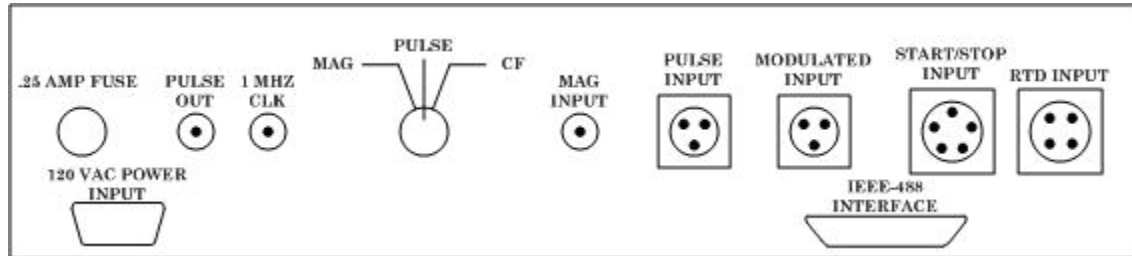

Figure 1. Back panel.
- a. Connect 115 V ac power source to 120 VAC POWER INPUT (fig. 1).
- b. Connect the resistance temperature device (RTD) to the RTD INPUT connector (fig. 1).
- (1) Attach the output from a CF pickoff (mounted on a flow meter) to the MODULATED INPUT (fig. 1) on the rear panel using the 150 foot cable.
- (2) Set the back panel selector to the CF position (fig. 1).
(3) Connect oscilloscope to the flow meter interface board with the ground attached to J4.2 and the signal input to J4.1. Set oscilloscope to measure 10 V p-p at approximately 50 kHz.
(4) Oscilloscope will indicate between 10.0 and 11.0 V p-p and a frequency of approximately 50 kHz; if not, perform **b** below.
(5) Disconnect oscilloscope from TI.
**b. Adjustments.** Adjust VR3 for a 10.5 V p-p indication on oscilloscope (R).
(1) Connect frequency counter to 1 MHZ CLK connector (fig. 1) on rear panel. Frequency counter will indicate 1 MHz  $\pm$ 50 ppm; if not, perform **b** below.
(2) Disconnect frequency counter from TI.